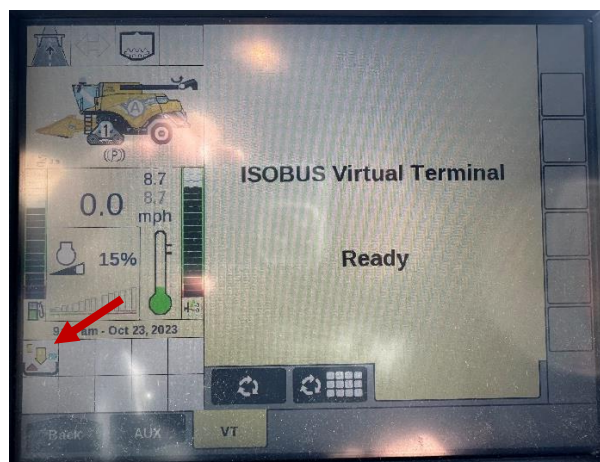

Figure 7.13: Case and New Holland VT Page
4. For the first power-on cycle after hooking up the system, it could take up to five minutes to load. During the loading process, leave the machine keyed on. You will see the "loading object pool" icon appear in the lower left section of the display (shown in Figure 7.13).